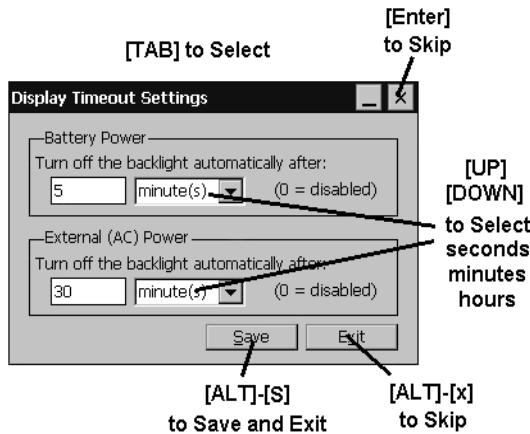

Figure 4-17: Display Timeout Settings Window
The Set Backlight selection displays the Display Timeout Settings window shown in Figure 4-17, below. The window is divided into the ‘Battery Power’ and the ‘External (AC) Power’ You can change the default settings, or enter ‘0’ in each field to keep the backlight turned on all the time.